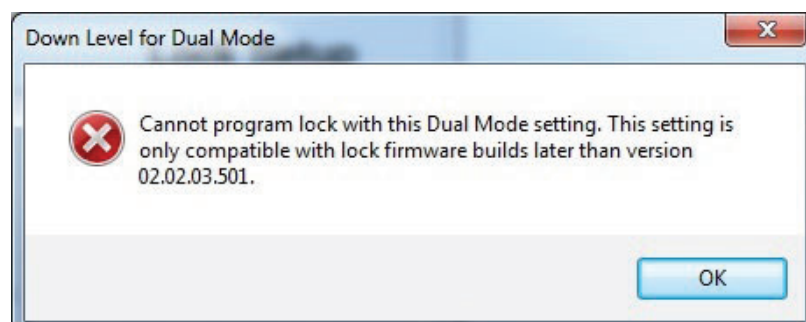

Figure 10
4. Plug the programming cable into the audit/programming port of the Entry Device (Figure 10).